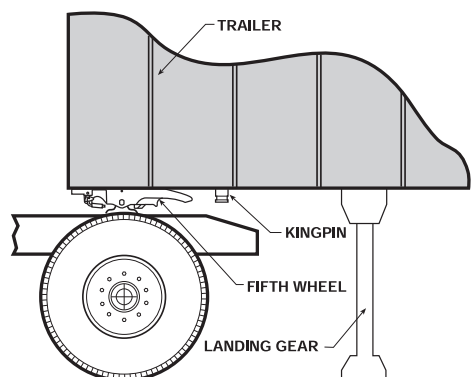

Figure 29
4. Pull the tractor away from the kingpin approximately 12" and **STOP** (Figure 29).
⚠ WARNING Do not allow the fifth wheel to lose contact with the underside of the trailer bed plate (Figure 29). Loss of contact may result in damage to the tractor air suspension.